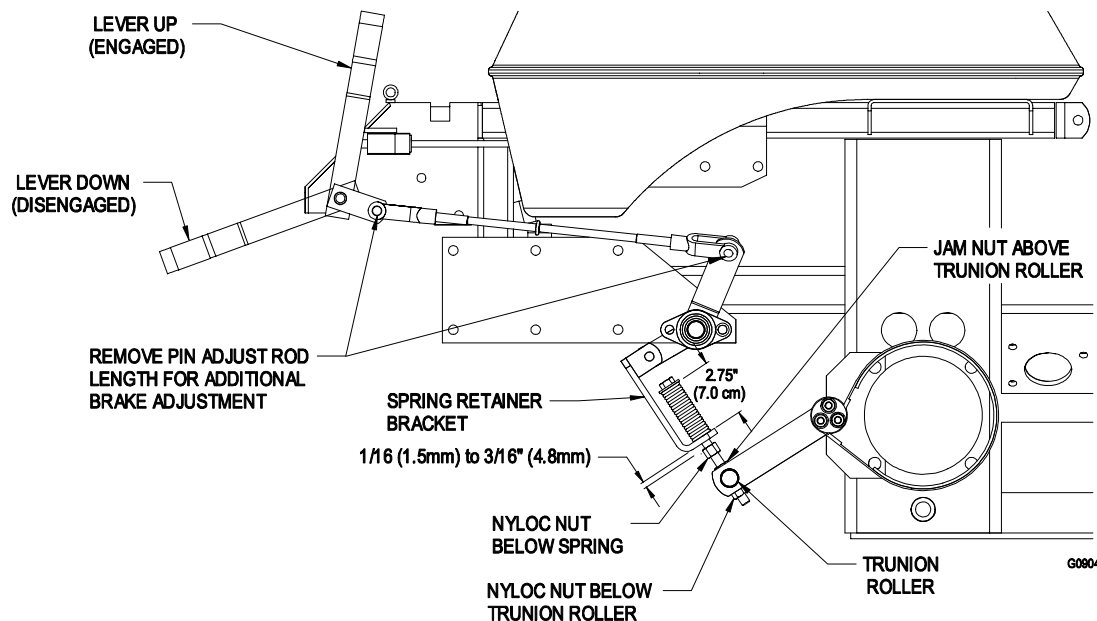

FIGURE 11
- b) Measure the length of the spring. Measurement should be 2 3/4" (7.0 cm) between washers (see Figure 11).